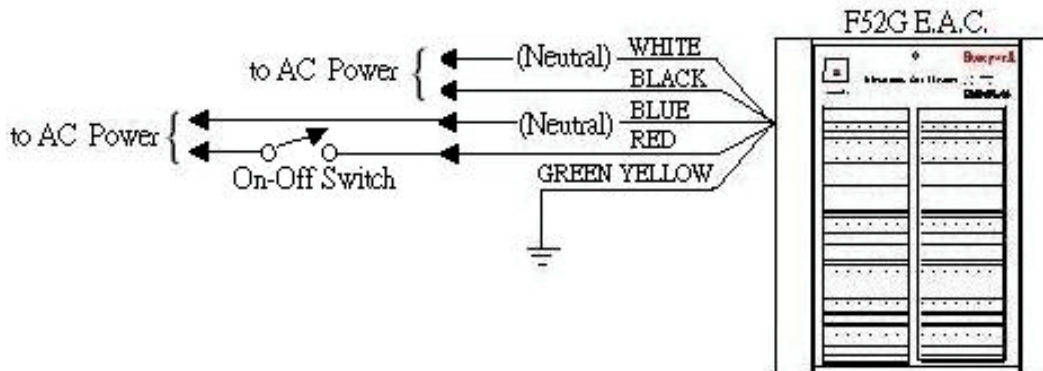
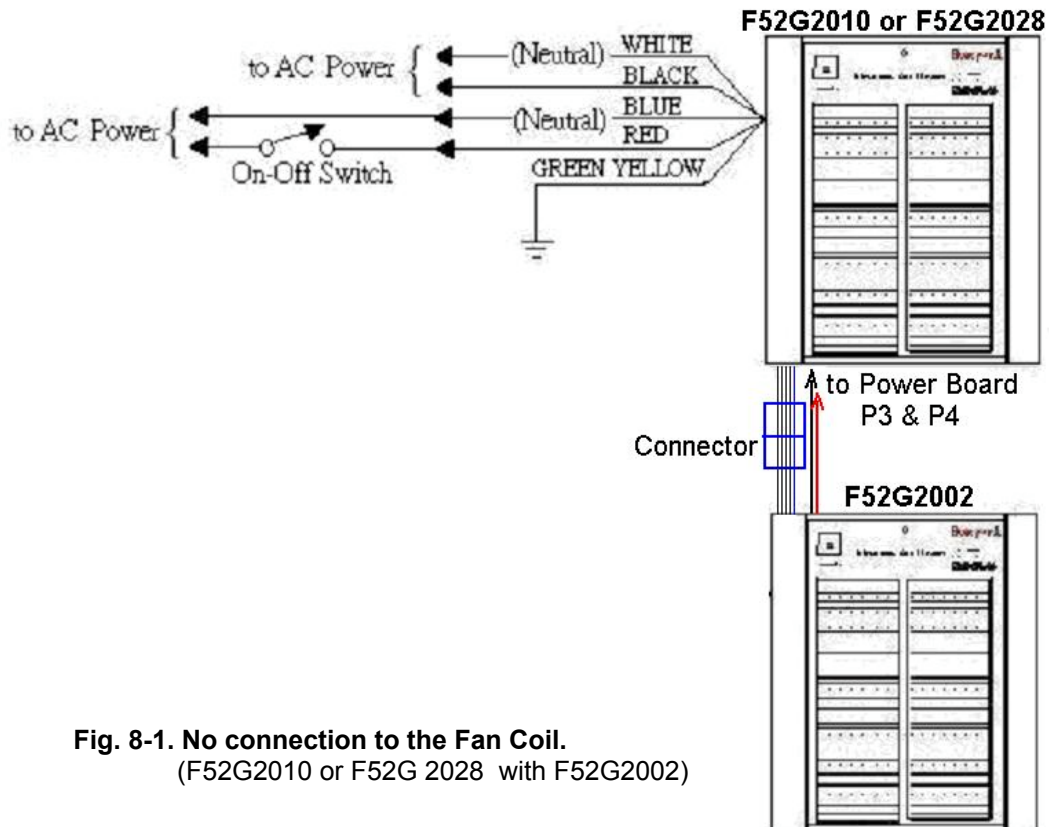

Fig. 8. No connection to the Fan Coil.
Fig. 8-1. No connection to the Fan Coil.
3. Connect the white lead from the air cleaner to the neutral side of the AC power. Use the solderless connector supplied. See Fig. 8 ;Fig.8-1.